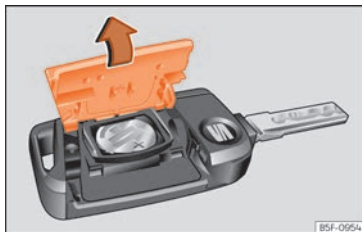

Fig. 145 Vehicle key: opening the battery compartment.
- Remove the cover from the back of the vehicle key » **Fig. 145** in the direction of the arrow » **⚠**.
- Fit the cover as shown » **Fig. 145**, pressing it onto the vehicle key casing in the opposite direction to that shown by the arrow until it clicks into place.